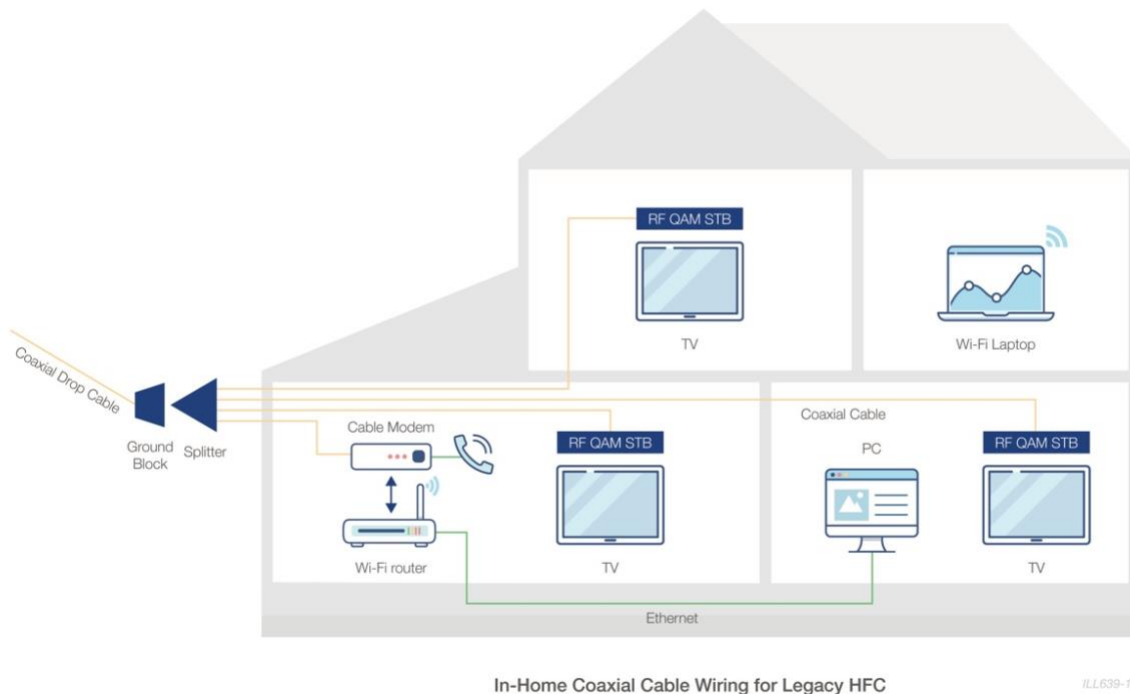

Figure 4
**Myth:** *With a PON, there is no RF infrastructure; the only means to deliver video service is via IPTV. Most currently deployed set-top boxes only support RF-delivered QAM video and would require replacement. This replacement is not necessary with NG HFC. (Figure 4)*